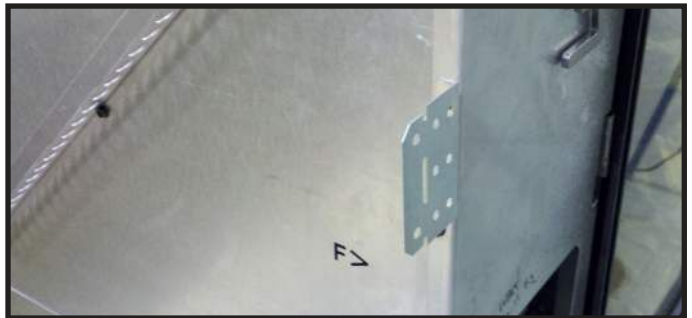

Figure 6.5 Nailing Tab Bent Out for Installation
- Bend out side nailing tabs 90 degrees. See Figure 6.5.